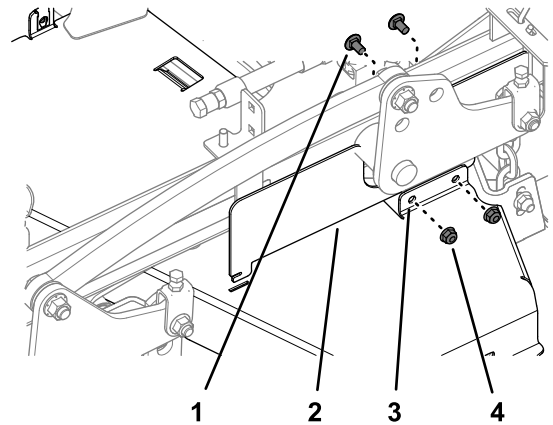

Figure 36
3. Remove the 2 carriage bolts and 2 lock nuts that secure the left side CE cover to the left belt cover (Figure 36).